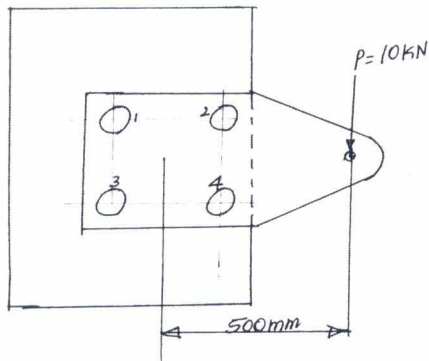

Fig.Q4(b)
- b. The structural connection shown in Fig.Q4(b) is subjected to an eccentric load P of 10 kN with an eccentricity of 500 mm. The centre distance between bolts at 1 and 3 is 150 mm and the centre distance between 1 and 2 is 200 mm. All the bolts are identical. The bolts are made of plain carbon steel having yield strength in tension of 400 MPa and the factor of safety is 2.5. Determine size of the bolts. (10 Marks)